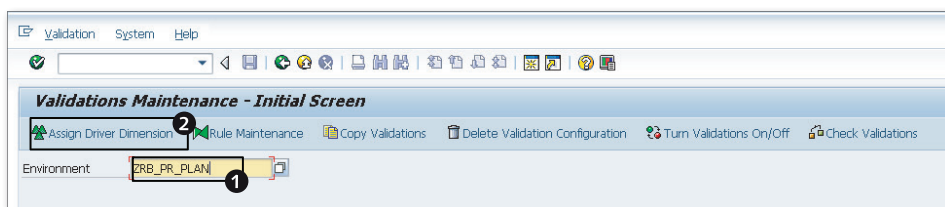

Figure 6.30 Creating a Validation Rule—Part A
1. Log in to the SAP NetWeaver BW system, and execute Transaction UJ_VALIDATION. Identify the environment for which you want to set validation rules, and then click on ASSIGN DRIVER DIMENSION (Figure 6.30, ❶ and ❷).